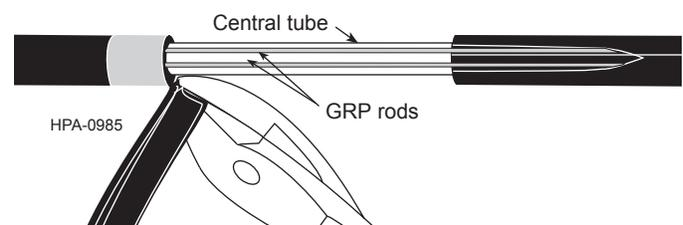

Figure 22
Step 8: 6.9 Using needle nose pliers, peel off both sections of the split sheath to the tape mark to expose a 15 cm (6 in) section of central tube. Use side cutters to remove the sheath sections flush with the tape wrap (Figure 22).